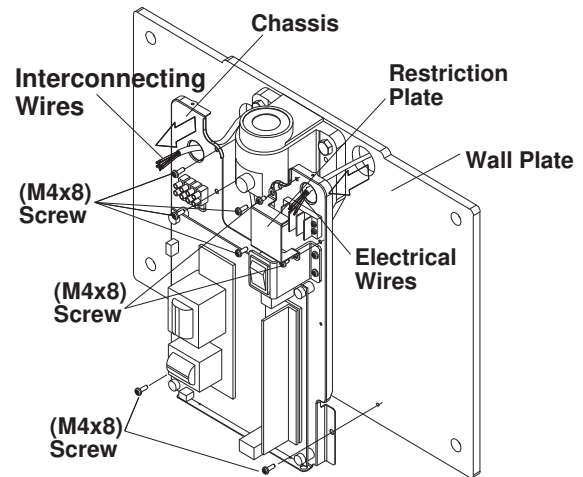

Fig. 3-6 Attaching Chassis to Wall Plate
1. Remove the restriction plate over the terminal blocks by taking out two (M 4 x 8mm) screws. **(Fig.3-6)**
2. Route electrical interconnecting wires and power supply wires through the access holes on chassis and mount the chassis on the arm bracket with three of four (M4 x 8mm) screws. (A screw at lower right corner should be secured with a green wire from arm as setp 6. on this page.) Secure the bottom corner of chassis with two (M4 x 8mm) screws to the wall plate. **(Fig.3-6)**